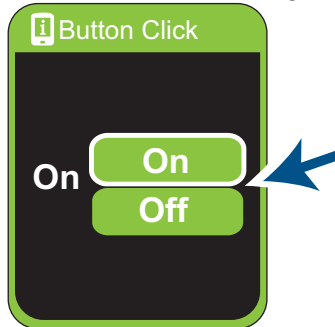

Figure 94. Turning the button click on or off
4. Tap On or Off to turn the button click on or off (*Figure 94*).